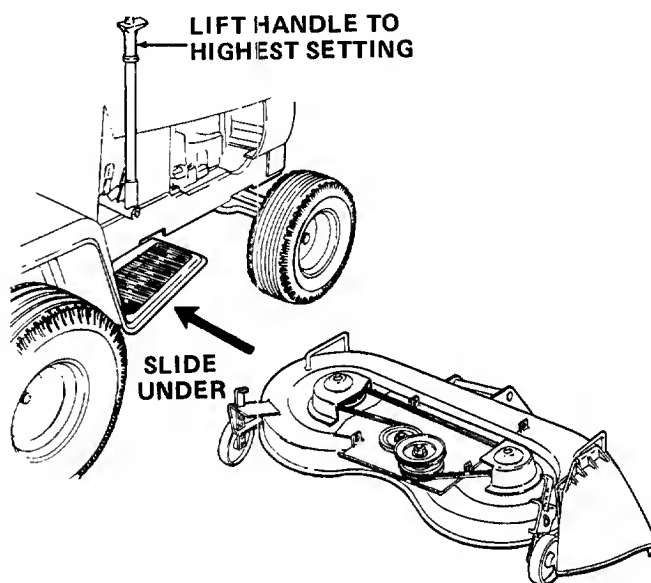
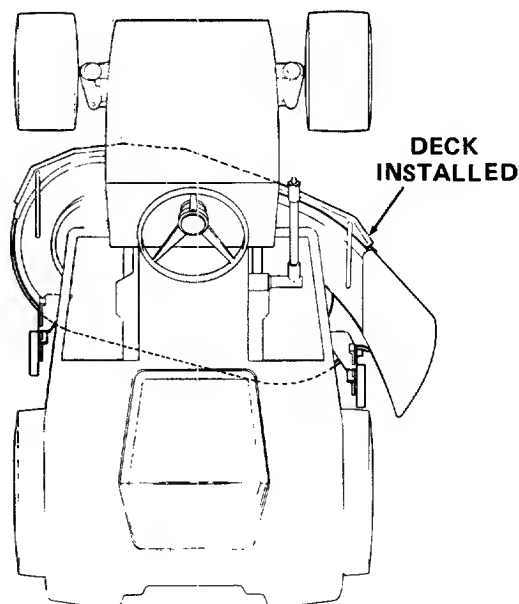

Figure 42
Figure 43
1. Raise the lift handle to its highest setting. Refer to Figure 42 and place the deck on the right side of the tractor, with the front of the deck facing toward the front of the tractor. Slide the deck under the tractor until it is aligned with the tractor as illustrated in Figure 43.